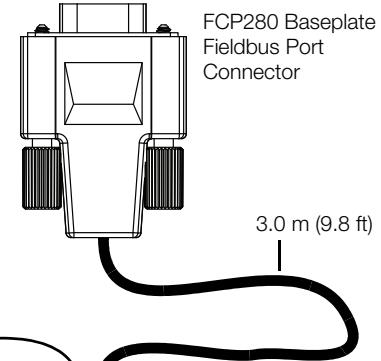

Figure 10. Extended Fieldbus Splitter for FCP280 Baseplate
- ▶ Fieldbus Splitter (RH928CV) (see Figure 10) allows any of the Fieldbus ports on the FCP280 baseplates to connect to the twinaxial 268 Kbps fieldbus cables. RH928CV includes both a connector to any of the Fieldbus ports on the FCP280 baseplate, and a termination cable assembly (TCA) termination block similar to two of the P0903VY termination blocks joined together. Refer to PSS 31H-1B11 B3 for the usage of this splitter.